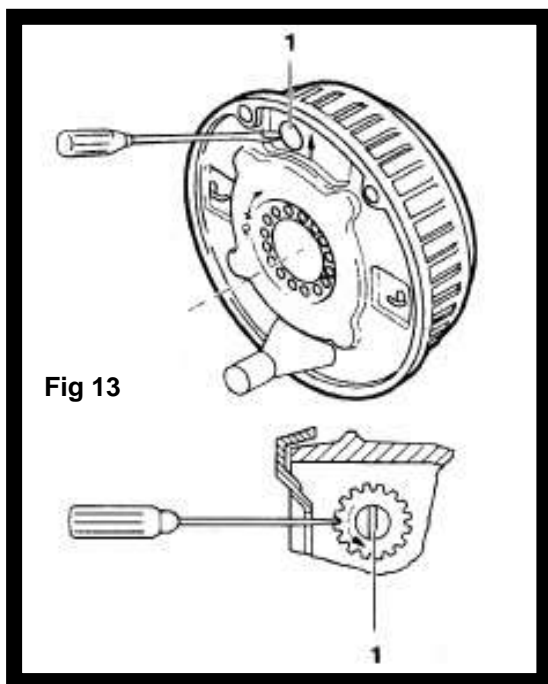

Fig 13
- Only ever set or adjust the wheel brake by means of the adjuster screw (1). Adjust in the direction of the arrow and release against the direction of the arrow (Fig 13).